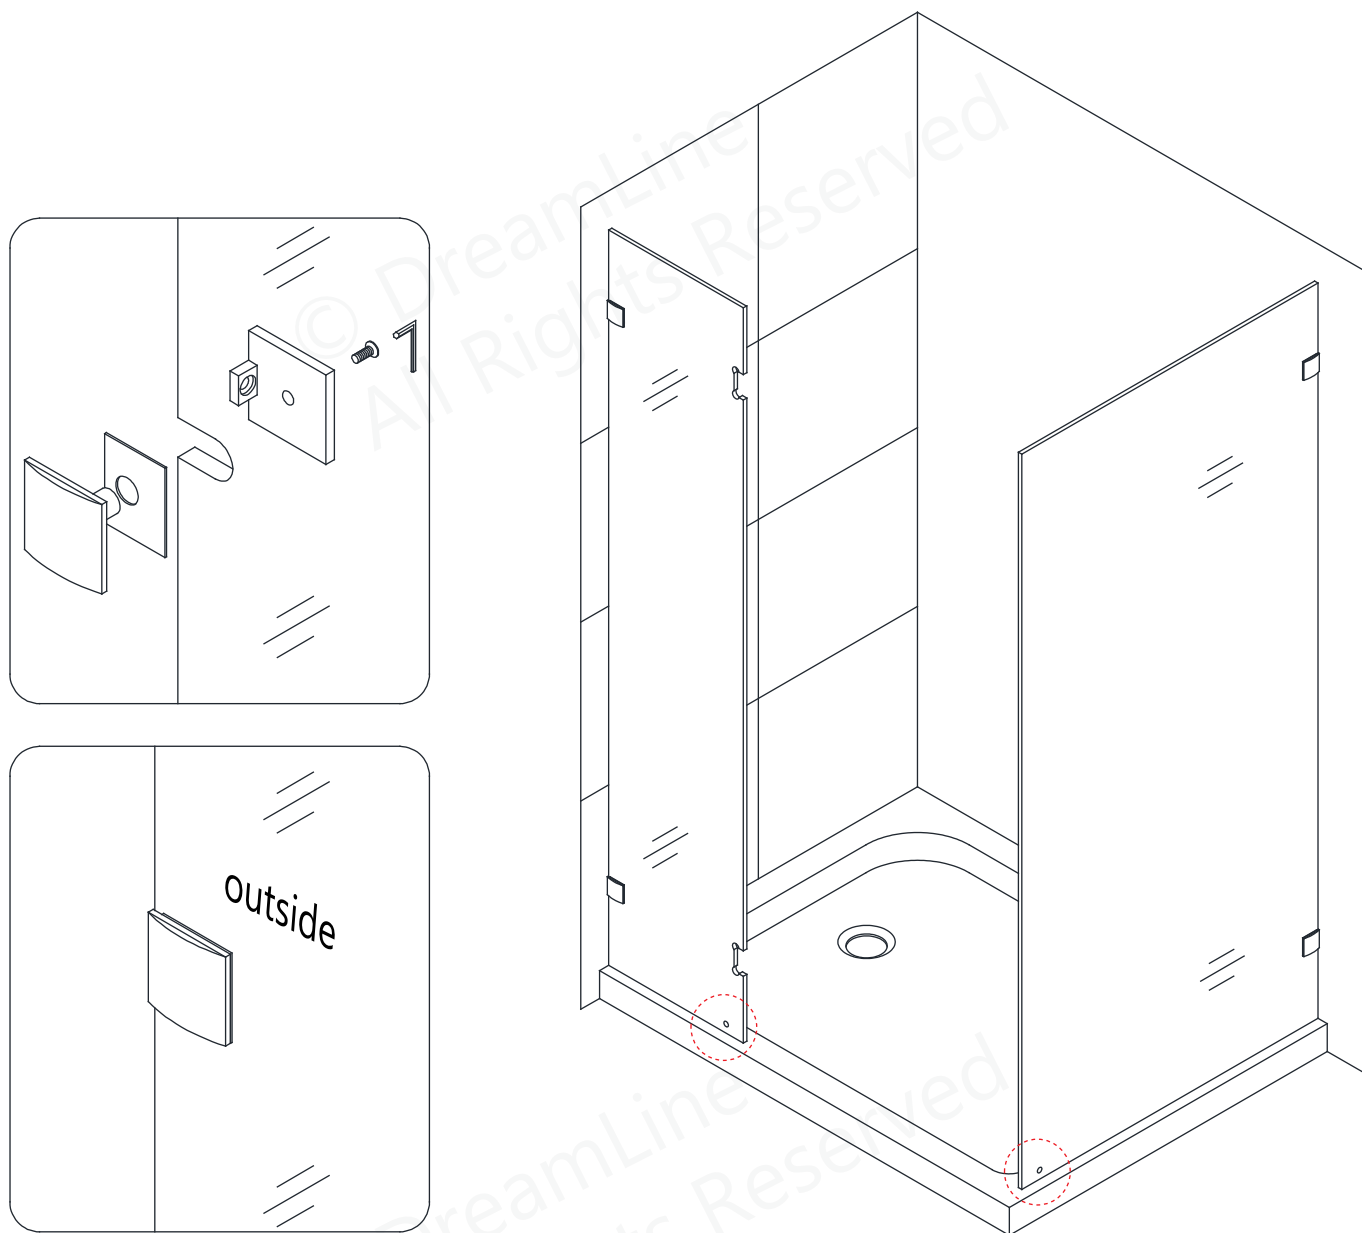

Fig 5
5. Carefully place the **Hinge Panel Glass (#01)** and **Return Panel Glass (#03)** back into the designated position. Assemble the **Wall Brackets (#14)** and tighten the bolts. **(Fig 5)**